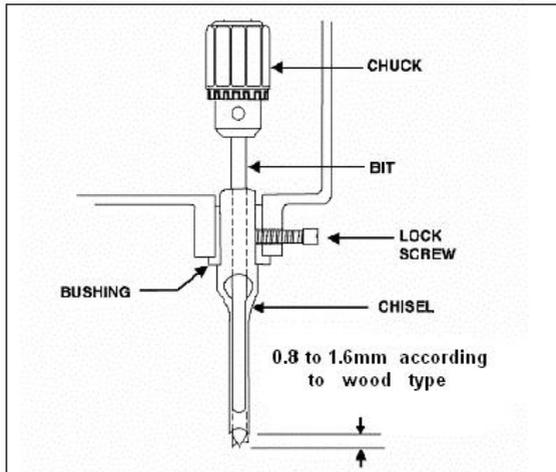

Fig. 7
1. Loosen lock screw, shown in Figure 7.